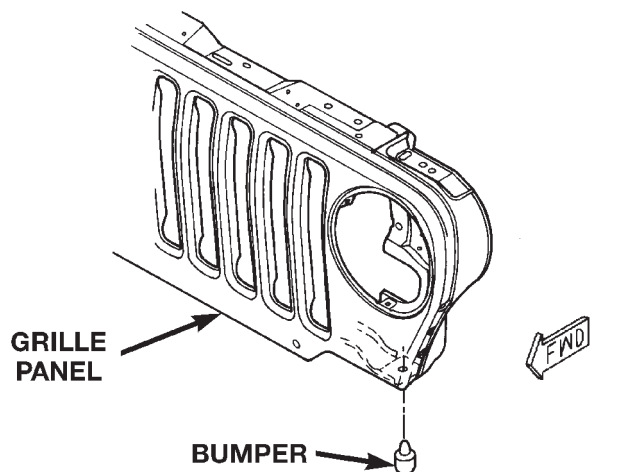

Fig. 1 Grille Bumpers
- (1) Position the grille panel on the vehicle. Ensure the rubber support bumpers are aligned (Fig. 1).
- (2) Install the bolt attaching the grille to the frame mount.
- (3) Install the bolts attaching the fenders to the grille panel.